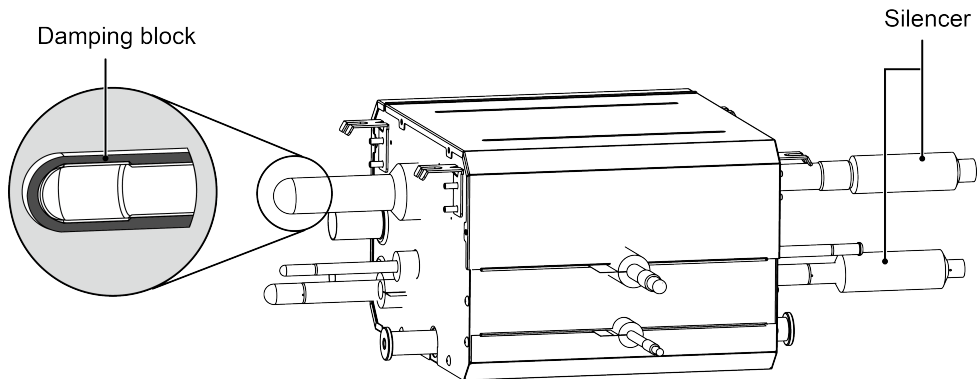

Fig.4.2.12
- 3) The low pressure gas pipe on the unconnected side should be wrapped by the damping block. See Fig.4.2.12.